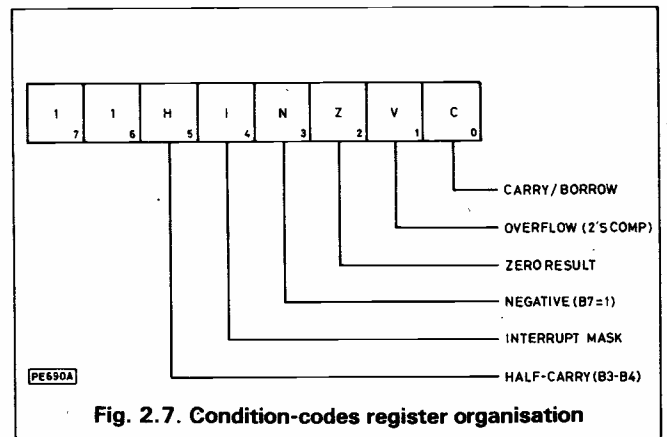

Fig. 2.7. Condition-codes register organisation
**Program Counter:** The program counter (PC) always contains the address of the next instruction byte to be fetched from memory. It is a 16-bit register which is automatically updated after each instruction fetch. When a jump operation is performed, the program counter is forced to a new value to cause the first instruction at the new program branch point to be fetched. The programmer need not be concerned directly with this register since it is automatically maintained by the CPU.
**Index Register:** The 16-bit index register (IR) holds memory addresses for use with certain types of instruction addressing modes. The contents of this register can be loaded, stored or manipulated by the programmer.
**Condition Codes Register:** This register (CCR) is really a collection of single-bit flags, gathered together in one place. The organisation of the register is shown in detail in Fig. 2.7. The two most significant bits are permanently set to logic 1, but are otherwise unused. Bit 4 is set by the programmer to indicate whether the CPU is to recognise user interrupts at the present time. Instructions are provided especially for clearing and setting the interrupt enable ("I") flag. The interrupts are ignored (masked) while the "I" flag is set to a logic 1.